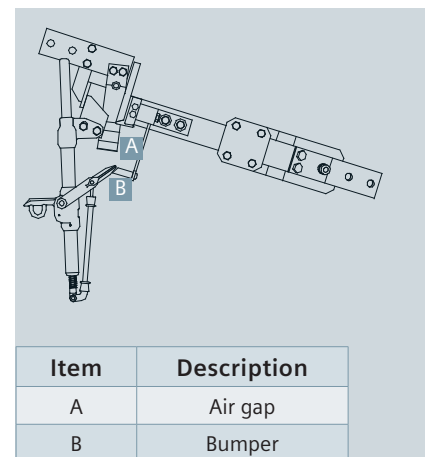

Figure 17: Lever position
d) In the fully closed position, the lever should rest on the bumper, and stick above the bumper at least 1/8" (3.2 mm) (refer to Figure 17: Lever position).